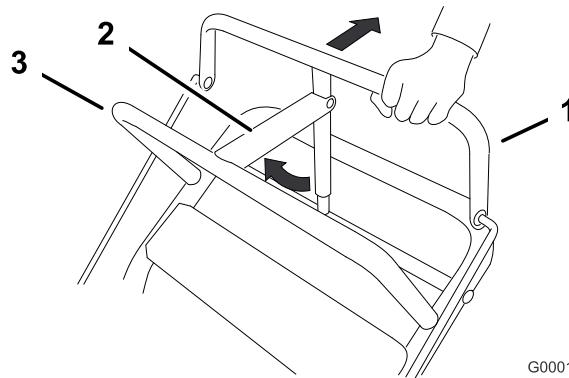

Figure 6
1. Pull the upper control bar rearward and hold it in this position (Figure 6).
2. Lift the parking brake lock up and gradually release the upper control bar. The brake lock should stay in the set (locked) position (Figure 6).